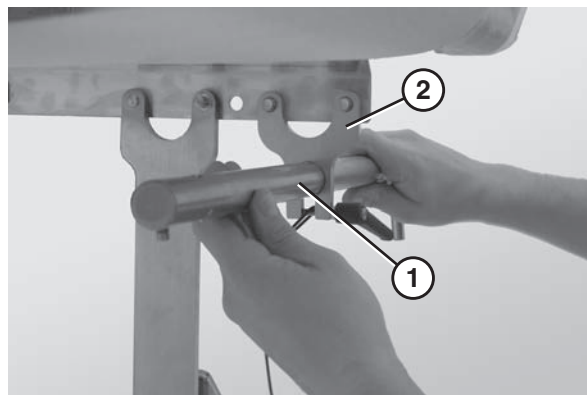

Figure 31
2. Slide the notched end of the scraper shaft (**Figure 31, item 1**) through the adjustment plate (**Figure 31, item 2**).